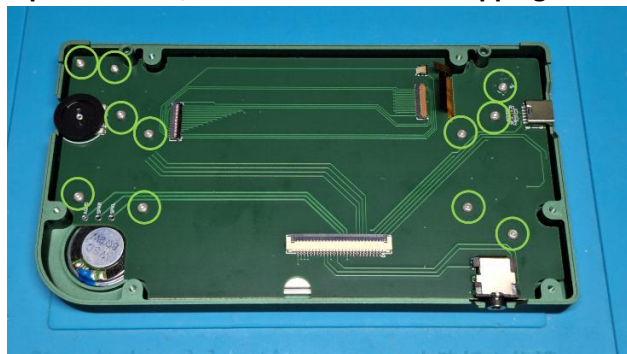

Figure 14: Button PCB fixed to front shell
6. Fix the button PCB to the front shell using eleven M2 x 4mm button head screws as shown in Figure 14.